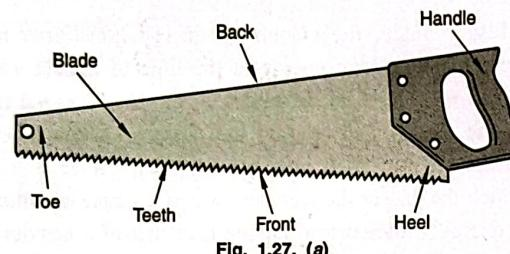

Fig. 1.27. (a)
Some important terms used in connection with saw are as under and are represented in Fig. 1.27 (a).
1. Back : The longitudinal edge of the blade opposite to the toothed edge is called back. [See Fig. 1.27]